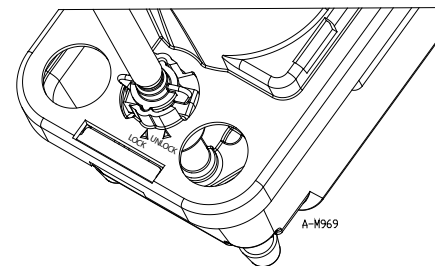

Fig. 4 (EN/FR/ES)
- Check to ensure that the valve is securely locked into position (Fig. 4).